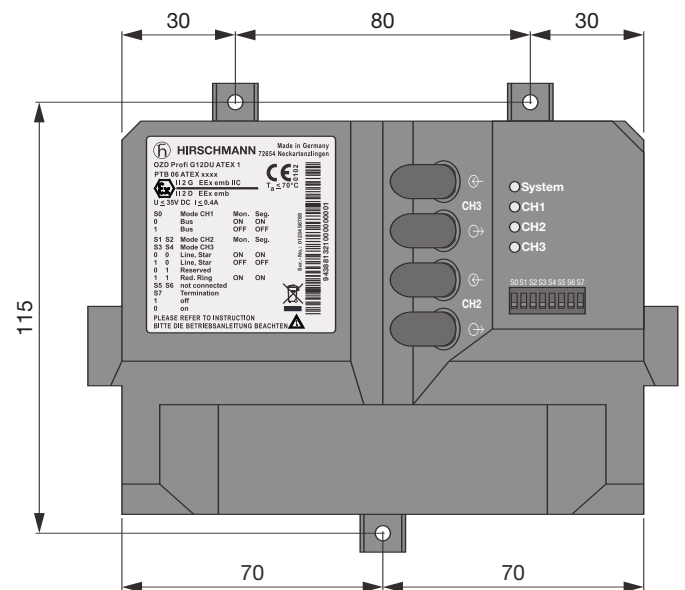

Fig. 14: Drilling dimension OZD Profi G12DU ATEX 1
- ▶ Drill three holes in the assembly plate as per the drilling dimensions in figure 14.